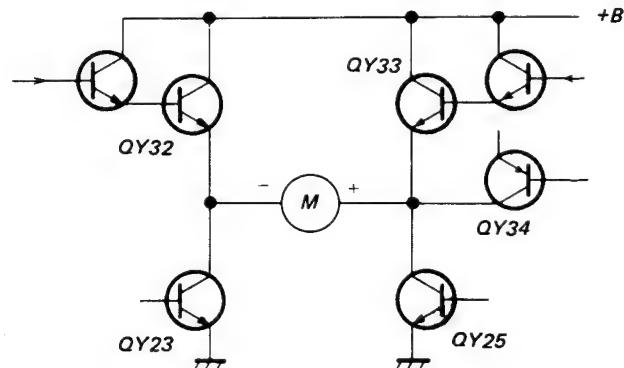

Fig. 3-62 Capstan Motor Drive Circuit
### Slow Circuit (Fig. 3-62, 63)
This delay output is obtained from Pin 9 (Q) of IC Y02 and differentiated by CY15, RY41 and positive pulses only are fed to Pin 8 (preset terminal) of IC Y05 through DY04 and causes Pin 13 (Q) to go to high level. Pin 13 (Q) output is fed to Pin 12 (A) of IC Y03 and generates pulses in Pin 9 of IC Y03 with width determined by CY05, RY26, and RY58. This is used as the brake pulse to apply reverse voltage on the motor and cause the motor to stop suddenly. The drive output from the Pin 6 of IC Y03 is fed to Pin 10 (clear terminal) of IC Y05 and prevents Pin 13 from going to high level and also prevents the generation of brake pulses while drive pulses are emitted even if there is an input to Pin 8 of IC Y05. The output ( $\bar{Q}$ ) of Pin 9 of IC Y03 is connected to Pin 3 of IC Y03 and prevents the generation of drive pulses while brake pulses are being generated. Simultaneous generation of drive pulses and brake pulses are prevented in this manner and thus prevents overcurrents in the drive output transistor. The drive circuit is constructed as shown in Fig. 3-62 and, during drive, QY33 and QY23 are turned on to cause the motor to turn in the correct direction. QY23 only is on during the period from the end of the drive pulse to the start of the brake pulse and no voltage is therefore impressed across the motor terminals.